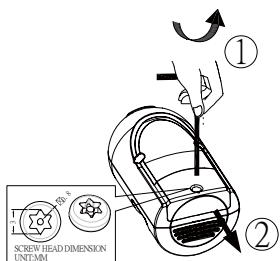

FIG. 1a
- Unscrew the cover using provided Allen key (FIG. 1a)